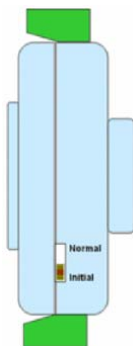

Figure 2-3 Initial mode
- Power the ADAM module on while turning the switch to “initial” as following (See Figure 2-3).